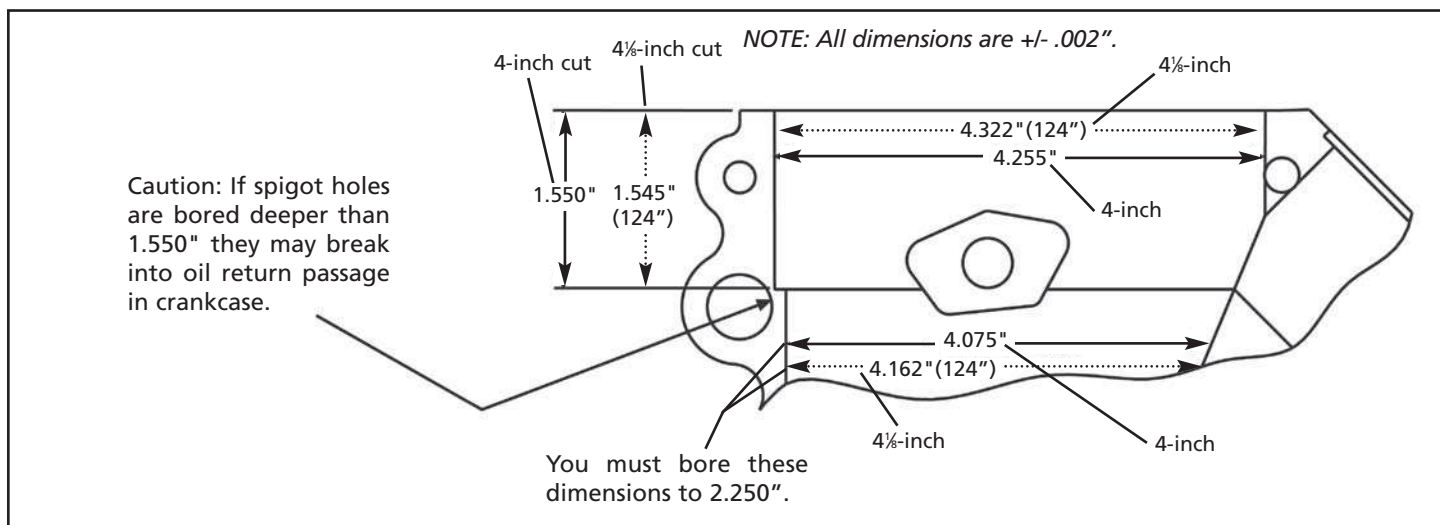

Figure 2
If cylinder spigot holes are bored deeper than 1.550" they may break into oil return passage in crankcase. See Figure 2.
- F. **See Figure 2.** Spigot bore depth can be measured with depth micrometer through window in boring spacer. **See Picture 8.**